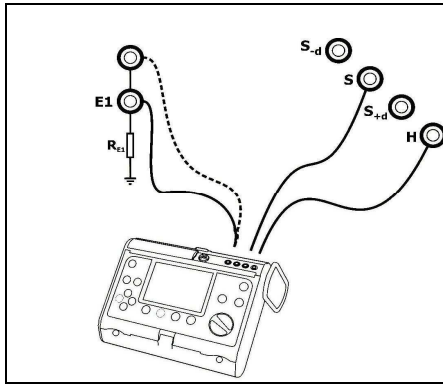

Figure 8. Connection of the meter.
- connect the earth resistance meter (MRU-XXX) to the sockets in accordance with Figure 8,